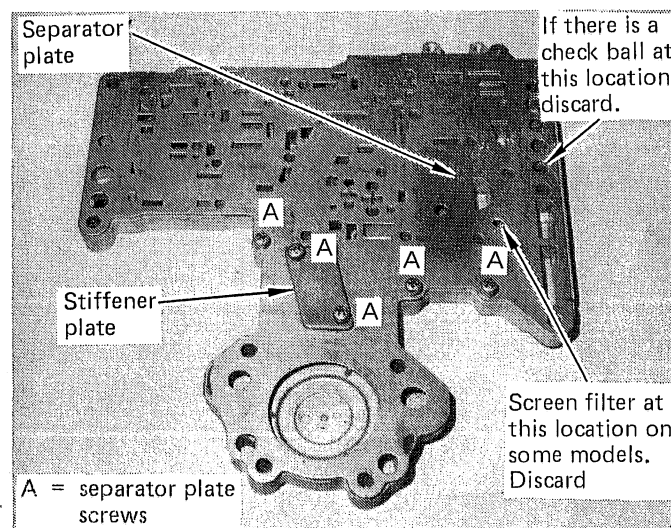

FIGURE 9
STEP 11. Place transfer plate and separator plate assembly in front of you. The thin metal separator plate will be held on with five short screws. Note how your stiffener plate is positioned. (See Fig. 9) Remove the retaining screws and lift the separator plate off. Some later models have a screen type filter or a check ball in the separator plate. Discard.